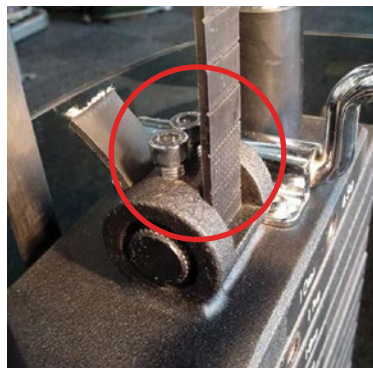

Figure 2
- ▶ For belting with the “barrel” clamp (Figure 2).